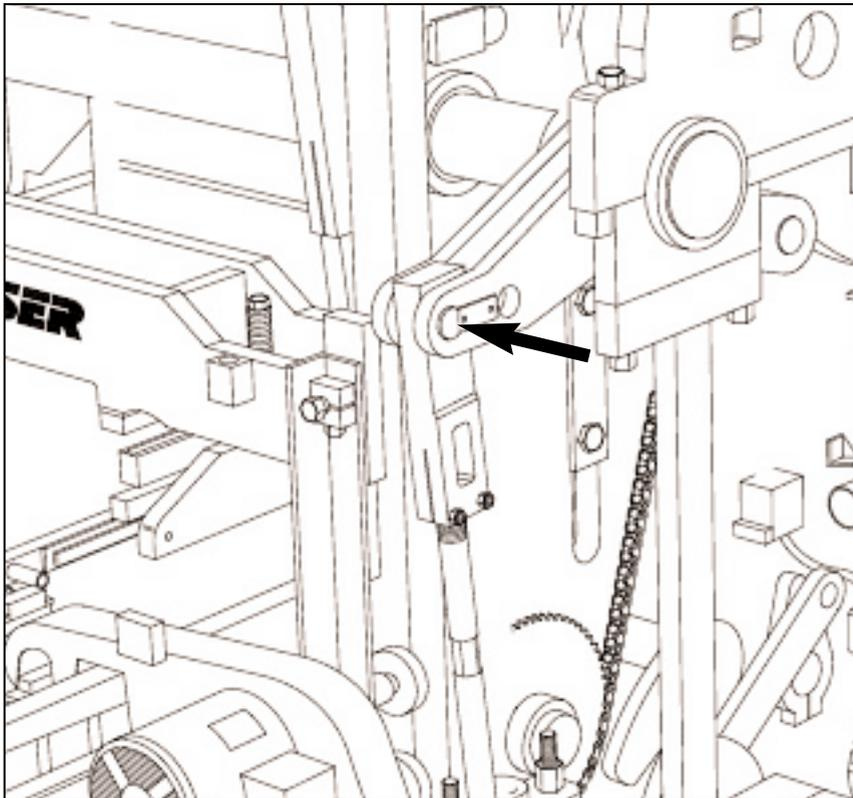

Figure 4.1 PALLET RECEIVER SHAFT POSITION.
- 4.1.1 The following items should be positioned as shown in figures 4.1 and 4.2:
- a Pallet receiver shaft - position pins in inside holes (short stroke)(see figure 4.1 below).